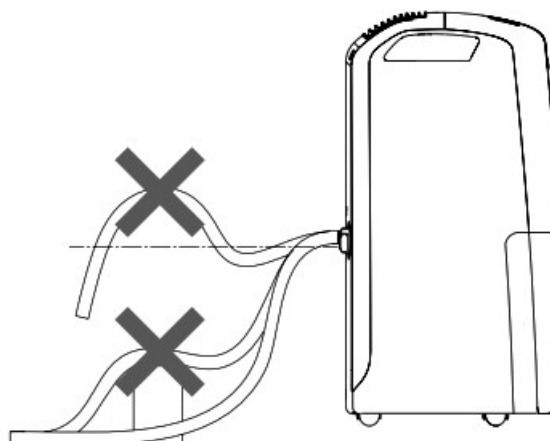

Fig. 5
3. Make sure the end of the hose is no higher than the spout (Fig. 3) or water could remain in the tank. Make sure there are no kinks in the hose (Fig. 5).